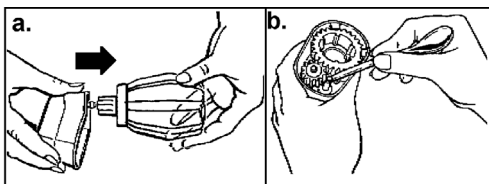

Figure 14.
1. The "universal" beater can be disassembled as shown in figure 14. First remove the whisk from its holder, as shown in 14a. Then, using a long flat object, like the handle of a teaspoon, pry up the small gear wheel and remove, as shown in figure 14b.
- > The “Universal” beater should be disassembled, see figure 14.